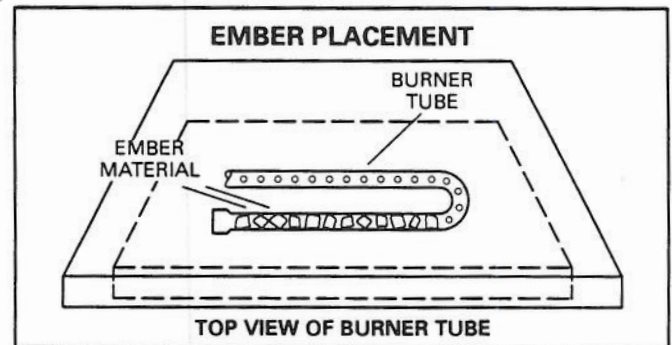

FIGURE 3
- d – If glowing embers are desired, separate the ember material into loose, fluffy pieces, approximately 1/2" to 3/4" (13mm to 19mm) in diameter. Take care not to compress the ember material. Place pieces roughly 1/4" (7mm) apart onto the front section of the burner tube. Ember material may be placed directly over burner ports. See figure 3.